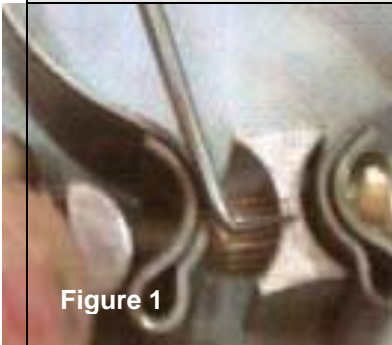

Figure 1
1. Before you install the stock clamps on your new exhaust, adjust the spacer so that approximately 1/8" of spline is visible on both sides of the spacer. See Figures 1 and 2.